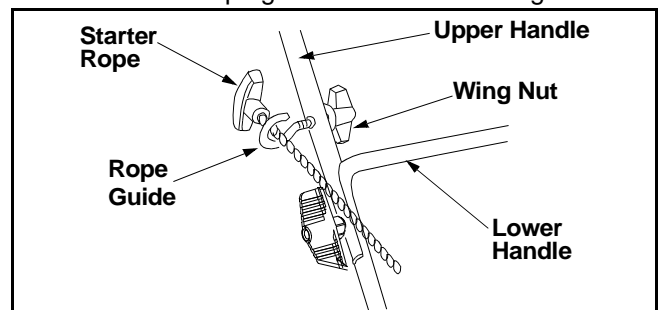

Figure 4
- **Move** rope guide to the first hole above the lower handle on right side. The wing nut loosens and secures the rope guide to handle. See Figure 4.